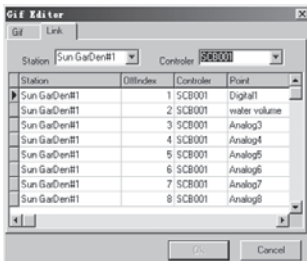

Fig. 4.29
3. Select and click **<Link>**, the system will display the dialogue frame as in Fig. 4.29. Select the Comat BoxX I/O Port of the working station that actually corresponds to the exhaust fan and then click **<Confirm>**. The animated picture insertion and interconnecting is then complete. When the exhaust fan is running normally, the required operating conditions being satisfied, its state will be transferred in real-time to the monitoring system. It will be shown in the designed animated pictures. With this function you may observe the running state of any equipment graphically.